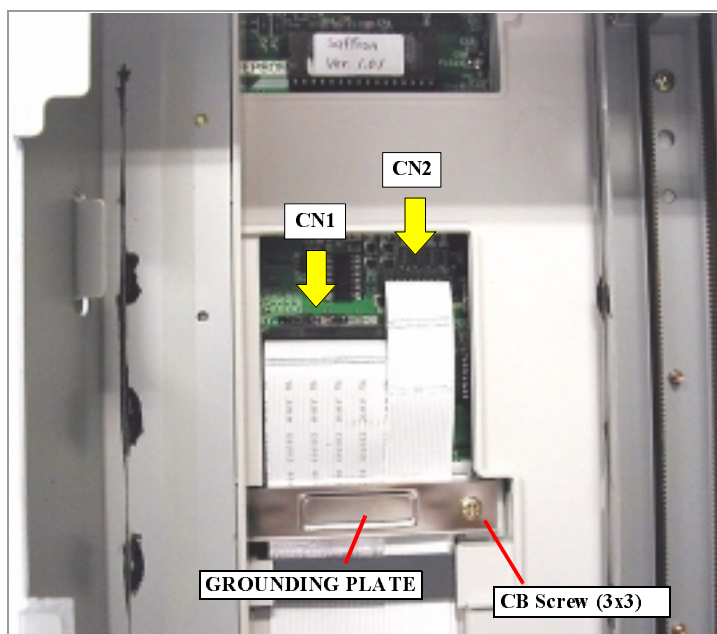

Figure 4-10. B109 MAIN Board Removal (1)
3. Slide the CR forward, remove the one screw (CB, 3x3), remove "GROUNDING PLATE", and then disconnect the FFCs from CN1 and CN2 on the B109 MAIN Board. (See Figure 4-10.)